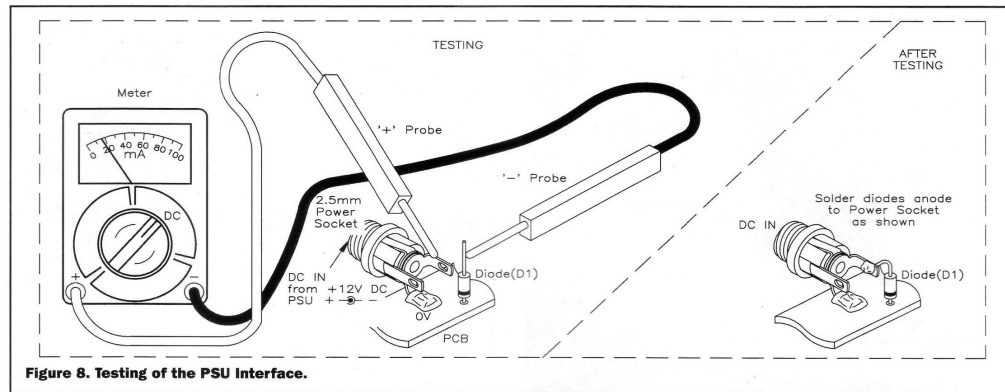

Figure 8. Testing of the PSU Interface.
Finally, fit the 1N4001 diode, D1, so its cathode (K), or banded end is soldered to the PCB – see Figure 8. DO NOT connect or solder its anode lead to the DC power input socket, SK3, until instructed to do so during the testing procedure.
The initial DC testing procedure can be undertaken using the minimum amount of test equipment. You will need a multimeter and a power supply capable of providing a regulated +12V DC at up to 300mA – see Figure 8. All the following readings are taken from the prototype using a digital multimeter, some of the readings you obtain may vary slightly depending upon the type of meter used.
Using the N to N coax cable, connect it between SK1 on the aerial and SK2 on the PSU Interface. Set your multimeter to read DC current. Next, apply power (+12V DC) to SK3; connect your multimeter's test probes to the anode of D1 and the centre tag of SK3 – see inset of Figure 8. When powered up you should observe a current reading of approximately 17mA. Power down the unit and remove the meter, then solder the anode lead of D1 to SK3 as shown in Figure 8. Set your multimeter to read DC Volts. Connect the negative test probe to the metal box and positive to the centre pin of the N socket SK2. When powered up you should observe a reading of approximately 3.6V DC, move the positive probe to the centre pin of the BNC socket SK4. No DC voltage should be present on this socket, however if you are using a high input impedance meter you may get a small floating reading. If the unit passed all its DC tests you can fit the lid on the box and connect the BNC to BNC coax cable to SK4.